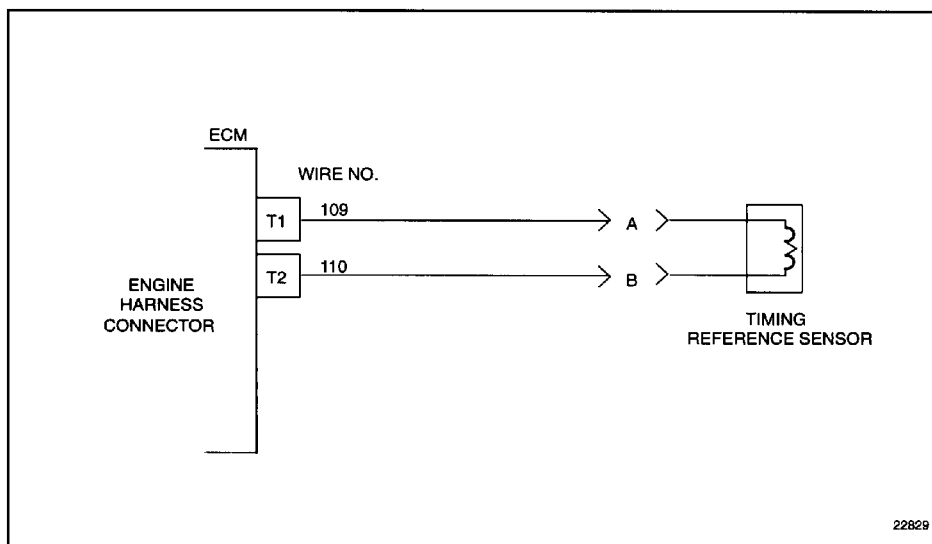

Figure 41-4 Engine Harness Connector to Timing Reference Sensor
1. Measure resistance of TRS across sensor connector pins A and B. See Figure 41-4.